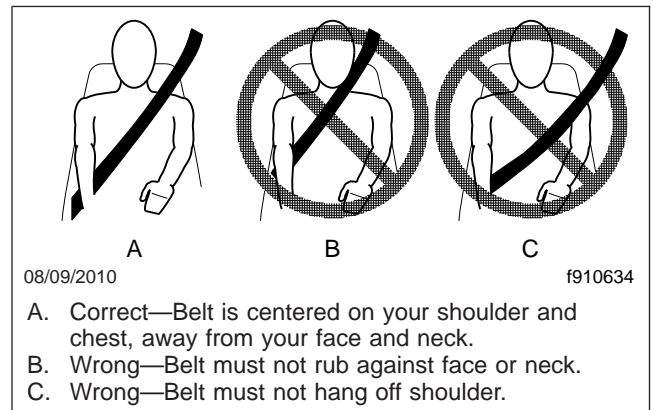

Fig. 6.10, Proper Shoulder Strap Fit
and neck. See **Fig. 6.10**. If desired, engage the Komfort Latch or Sliding Komfort Latch as follows.
5. Position the shoulder strap diagonally across your chest with the adjustable D-loop bracket (if equipped). The shoulder strap must be centered on your shoulder and chest, away from your face and neck. See Fig. 6.10.